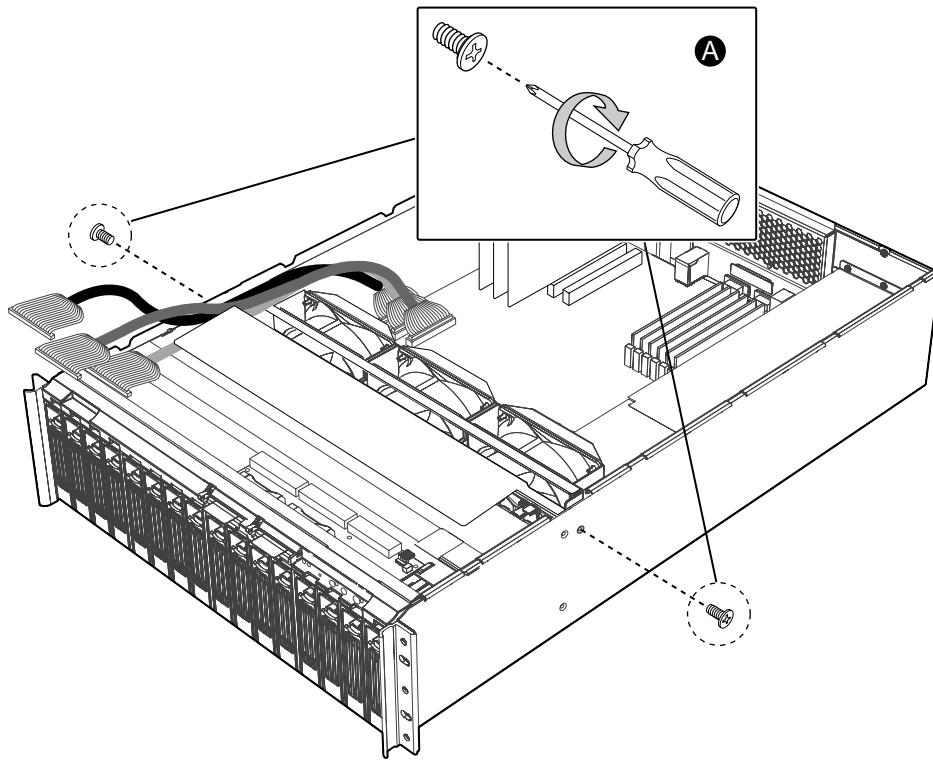

Figure 16. Re-attaching the Fan Assembly to the System
- A. Using a Number 1 size Phillips Screwdriver, screw in the one Phillips screw on each side of the system into place until the system fan assembly is mounted in the chassis. See Figure 16.